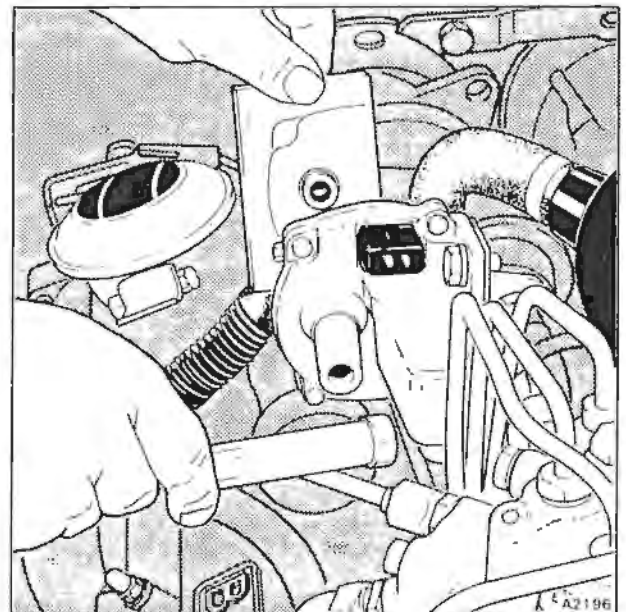

Fig. B3-28 Checking the auxiliary air valve
4. Using a flashlight and mirror, observe the position of the hole in the blocking plate (see fig.B3-28). It should be partially uncovered. If the blocking plate completely closes the air passage, fit a new auxiliary air valve.